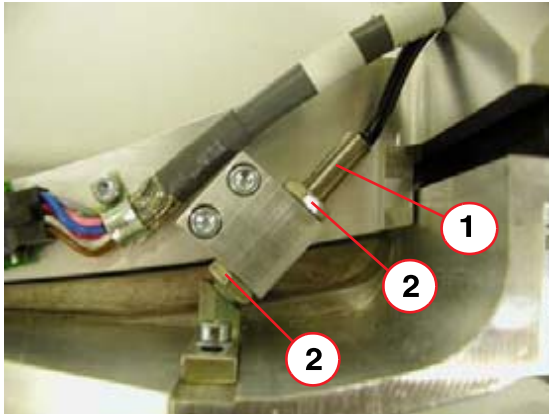

Fig. 127: Home sensor of UHR-plus comb
3. Adjust a gap of 0.25 mm +/- 0.05 mm between the limit switch and the flag at the moving part (Fig. 127 / p. 172)